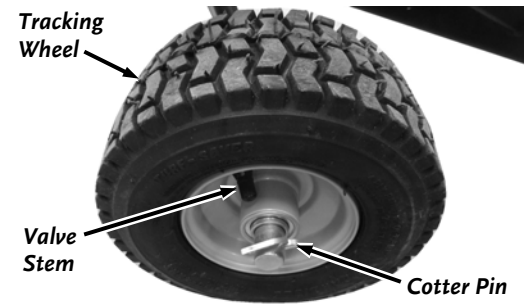

Figure 37
1. Remove the Cotter Pin with Pliers and remove the Tracking Wheel Assembly (**Figure 37**).